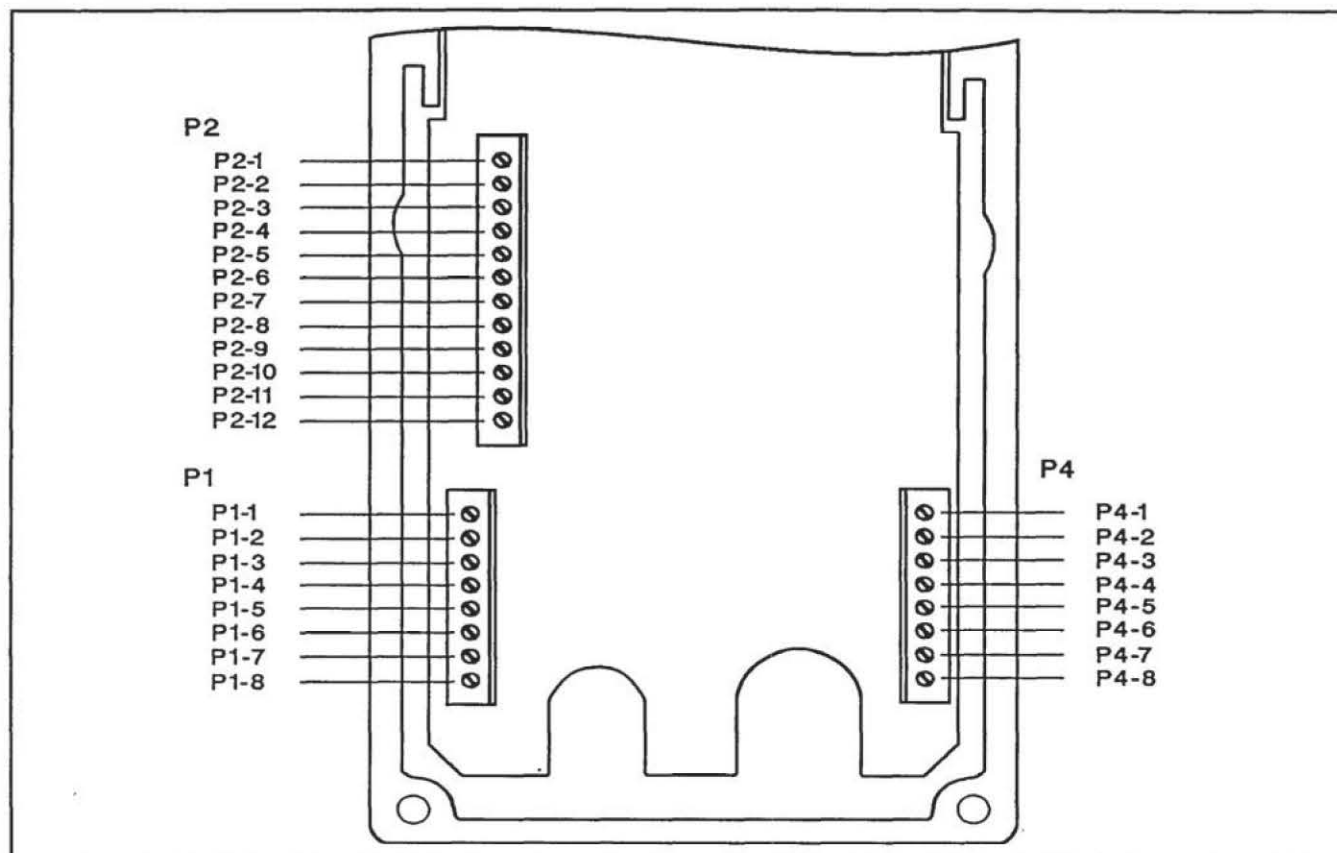

Figure 3.9 - PC40 240 VAC Model terminal block connections
3. Use 14-16 gauge electrical wire (customer supplied) to make the connections that are listed in Table 3.2. Terminal Block P2 is shown in Figure 3.9.
4. Use 16-18 gauge electrical wire (customer supplied) to make the connections shown in Table 3.4. See Figure 3.9 for the location of terminal block P2.
The trigger devices, usually photosensors, are connected to PC40 terminal block P4 (refer to Table 3.6 and see Figure 3.9). The signals from the trigger are resistively coupled and filtered into the PC44.